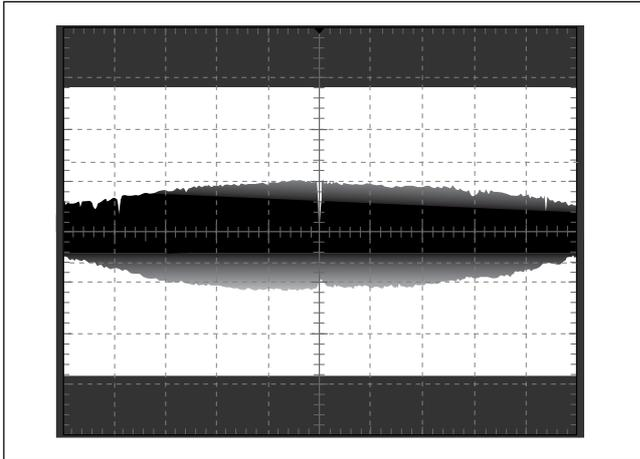

Fig. 14
- Adjust screw A and fix so that the left, middle, and right lines of the waveforms on an oscilloscope are horizontal as shown in Figure 14 and so that these lines fall in level by more than one-third of the P-P waveform.